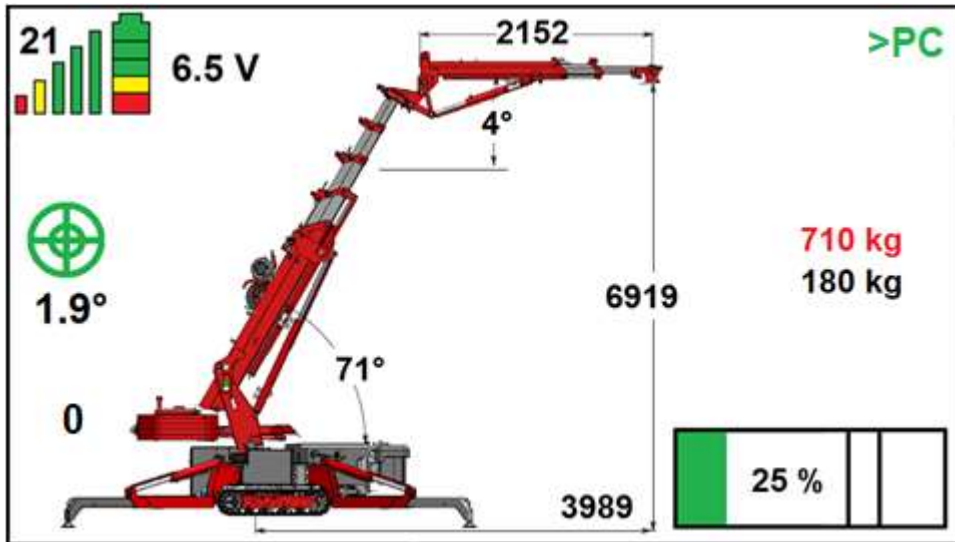

Figure 59
- The transmission frequency is shown at the top left. See figure 59; here it is set to 21.
- The signal strength is indicated by 5 vertical bars. If the strength is good, they are all shown, as in figure 59. As the signal weakens, the bars disappear: first green, then yellow and finally red.
- The battery state of charge is shown in the battery symbol in the top-left corner of the screen. When the battery is fully charged, 3 green blocks, 1 yellow and 1 red are shown, as in figure 59. As the battery discharges, the blocks go out, one at a time.
- The state of charge is shown in volts. In figure 59 this is 6.5 V.
- The degree of levelling of the machine is also shown. This is indicated by the green circles in the middle. In figure 59 the crane is 1.9° out of level.
- The position of the main boom is 71° in figure 59.
- The position of the jib is 4° in figure 59.
- The radius of the outreach is 3989 mm in figure 59.
- The lifting height is 6919 mm in figure 59.
- The length of the jib is 2152 mm in figure 59.
- The crane is loaded at 25% in figure 59.
- As can be seen in figure 59, the ballast is extended. As the ballast is retracted the indicator moves, and if the ballast is removed from the crane it is no longer shown on the display. There is also a value next to the ballast. The value shown in figure 59 is 0; this means that the ballast is retracted (extended 0 mm). When you extend the ballast, the distance the ballast is extended is shown here.